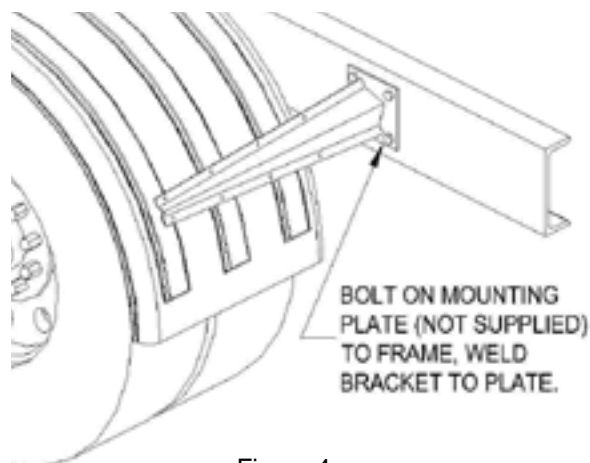

Figure 4
- B. For weld on brackets, you can bolt a plate (not supplied) to the frame and weld to that plate or just weld the brackets right to the frame if preferred. **Check your owners' manual before welding directly to the frame. Most manufactures suggest that you do not weld anything directly to the frame.** Make sure the brackets are aligned to the fender prior to welding. Plate should be a minimum of  $\frac{1}{4}$ " thick steel. See Figure 4.